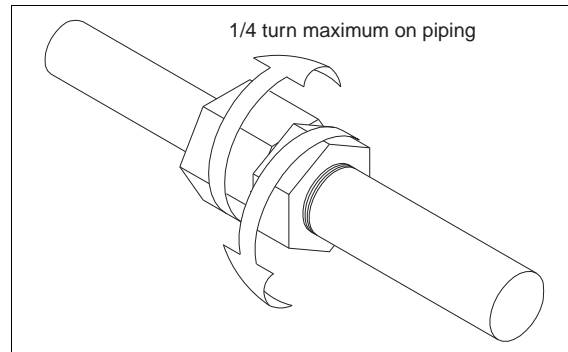

Figure 10. Loosening Locking Nut
5. Loosen the clinch assembly on the column pipe by unscrewing the three set screws in the side of locking nut, then backing off the locking nut (see Figure 10).